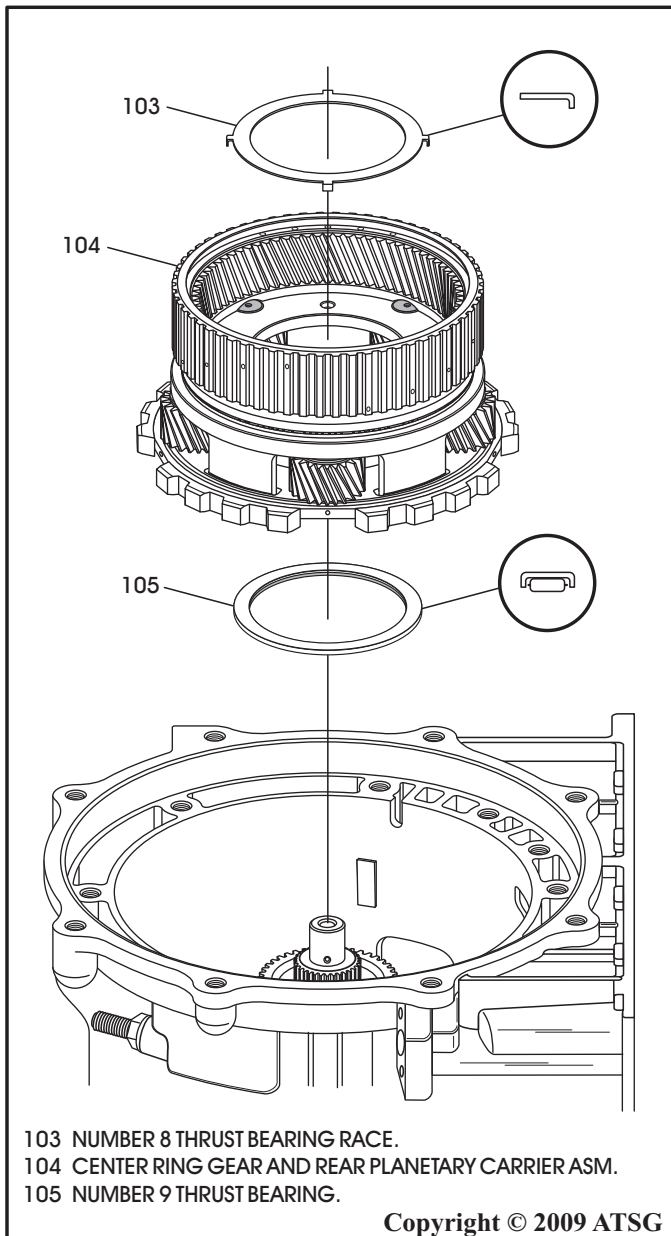

Figure 219
59. Install the number 8 thrust bearing race on the front side of the center ring gear and planetary carrier assembly, as shown in Figure 219, and retain with Trans-Jel®.
60. Install the complete assembly into transmission as shown in Figure 219, by rotating carrier into position until fully seated.